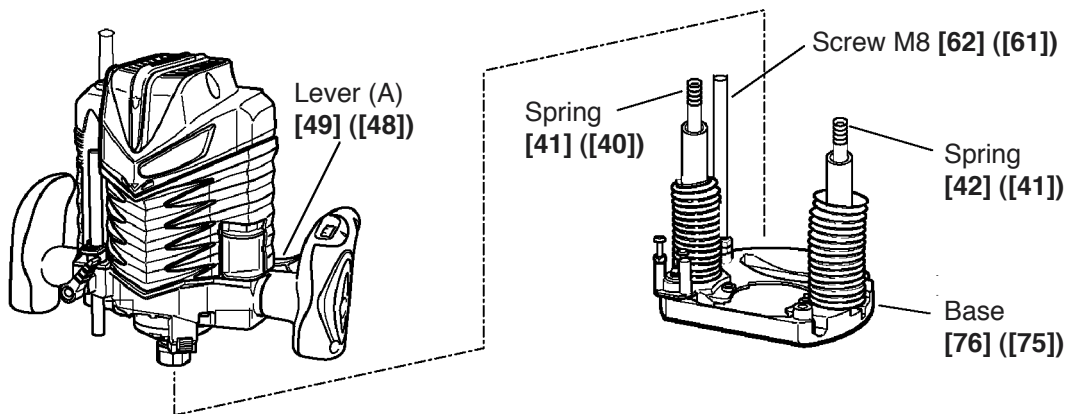

Fig. 3
(1) First, remove the bit. If further disassembly is attempted with the bit mounted on the router, it may cause damage to the cutting edges of the bit and/or serious injury to the handler.
(2) Removal of the Base [76] ([75]) (Fig. 3)